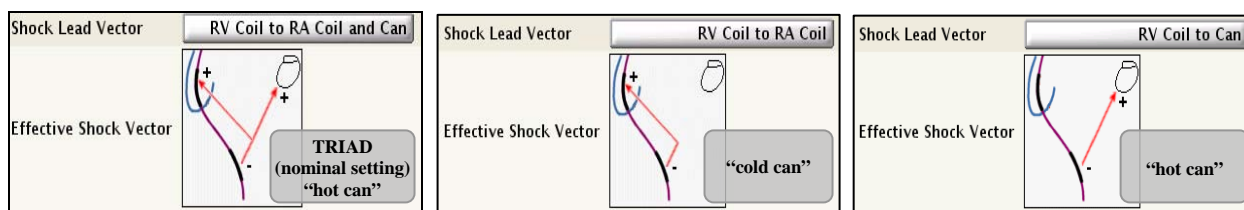

Figure 1. Programmable shock vector configurations for COGNIS and TELIGEN devices.
- **Select a different Shock Lead Vector and test to evaluate impedance measurements.** The Shock Lead Vector in COGNIS and TELIGEN devices can be programmed to one of three configurations (Figure 1).